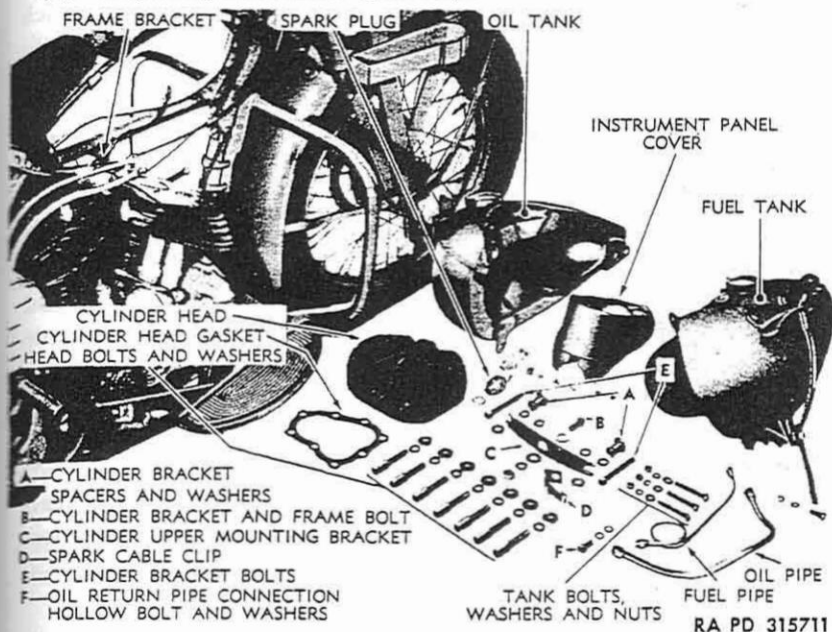

Figure 15—Disassembly for Head Gasket Replacement
41. REPLACEMENT OF HEAD GASKET (fig. 15).
a. **Removal.** Refer to figure 15, illustrating necessary parts and units to be removed to perform this operation.
- (1) Remove instrument panel cover (par. 119).
- (2) Remove gasoline tank and oil tank (par. 107).
- (3) Remove cylinder head bracket to frame lug bolt; this will free clamp which secures front spark plug cable. Pay particular attention to shim washers placed between cylinder head bracket and frame lug, as these washers must be replaced when installing cylinder head.
- (4) Remove spark plug, or plugs.
(5) Remove cylinder head bolts, using head bolt wrench 41-W-1525. NOTE: On some 42 WLA models, plain washers (0.095-inch thick), in addition to regular (heavy) cylinder head bolt washers, were used to prevent cylinder head bolts from bottoming.
(6) Perform carbon removal (head only). Refer to paragraph 42.
b. Installing Gasket and Head (fig. 15).
(1) Clean top of cylinder. Apply a light application of grease or oil to both sides of gasket before locating on cylinder head. Place head on cylinder.
(2) Install head bolts, using heavy washers (also 0.095-inch thick plain washers, if any were removed). If in doubt as to use of 0.095-inch thick washers in addition to regular washers, measure depth of bolt holes in cylinder head. Head having hole depth of $\frac{31}{32}$ inch must use the 0.095-inch thick washers in addition to regular washers. Head having bolt hole depth of $1\frac{1}{16}$ inch does not require the 0.095-inch thick washers.
(3) Install cylinder frame bracket with the two long bolts, special (spool-shaped) spacers, and flat washers. The spacers go between cylinder heads and frame bracket. A flat washer goes under the head of each long cylinder bolt, above the bracket; some engines may have flat washers between the spacers and the bracket.
(4) Tighten head bolts evenly to ensure a tight cylinder head joint. Use head bolt wrench 41-W-1525, first turning down bolts just snug, then tightening each bolt $\frac{1}{8}$ to $\frac{1}{4}$ turn at a time, until all are securely tightened. If torque wrench is available, tighten head bolts to 60 foot-pounds minimum, 65 foot-pounds maximum tension when engine is cold.